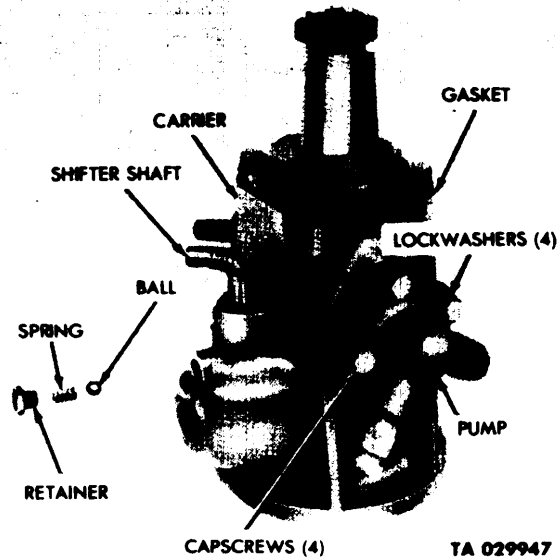

Figure 5-30. Removal of Pump, Shifter Shaft Retainer, Spring, and Ball.
(1) Remove the four capscrews and lockwashers securing the pump to the carrier. (See fig. 5-30.) Remove the pump and gasket. Discard the gasket.
- e. Pump and shifter shaft. (See fig. 5-30 and 5-31.)